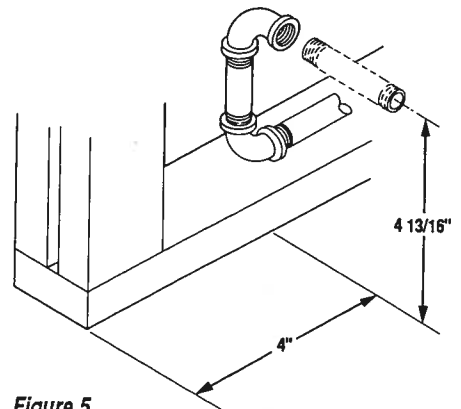

Figure 5
Step 2. Route a 1/2" NPT black iron gas line 4 13/16" above the floor surface (if fireplace will be resting on the floor) and 4" behind the face of the rough framing (Figure 5).